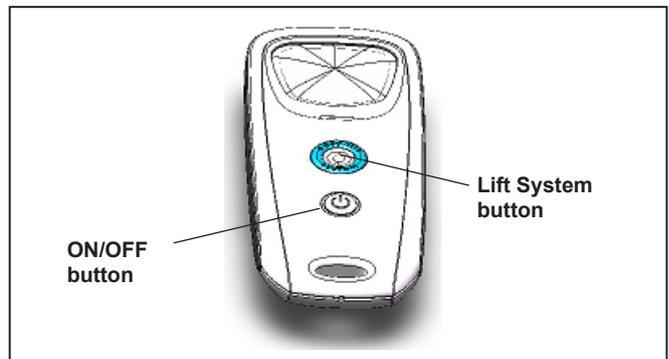

Figure 20. VX55 4WD Remote Control
Press  (see Figure 20) and hold for 3 seconds.
- To remove the cleaner from the pool using the remote control, press  (see Figure 20).